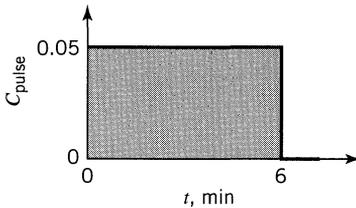

Figure P11.2
- 11.2. Repeat Problem P11.1 with one change: The tracer curve is now as shown in Fig. P11.2.